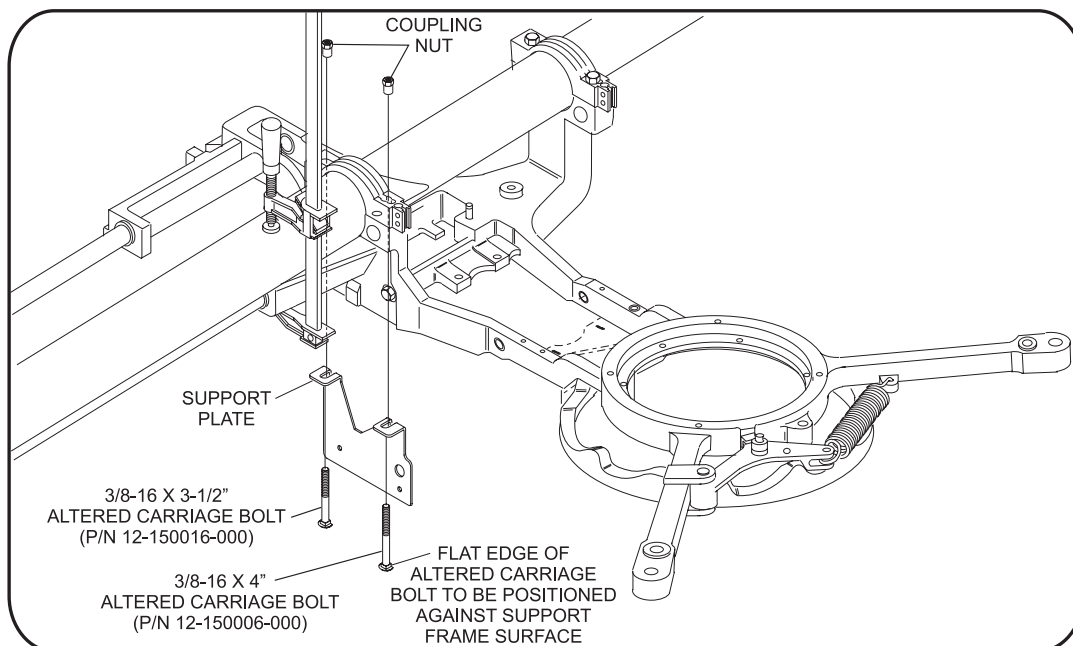

Figure 2
- Install turret frame support plate (P/N 12-150003-000). Secure with provided 3/16-16 x 4" carriage bolt (P/N 12-150006-000), 3/16-16 x 3-1/2" carriage bolt (P/N 12-150016-000) and 3/8-16 x 1-1/8" coupling nuts (P/N 12-150015-000). The head of the bolts should be secured with flat edge against the support plate. Refer to *Figure 2*.